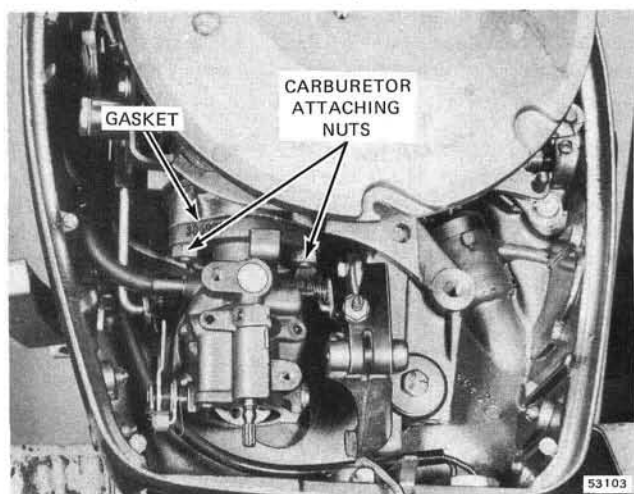
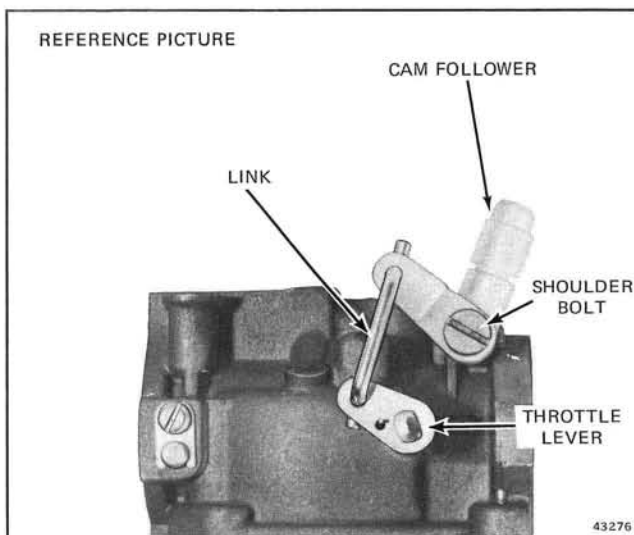

Figure 3-9. Removing Carburetor
Figure 3-10. Link Position (Port Side View of Carburetor)
f. Remove two nuts, carburetor, gasket and link as an assembly, from intake manifold. See Figure 3-9. Observe position of link on lever. See Figure 3-10.